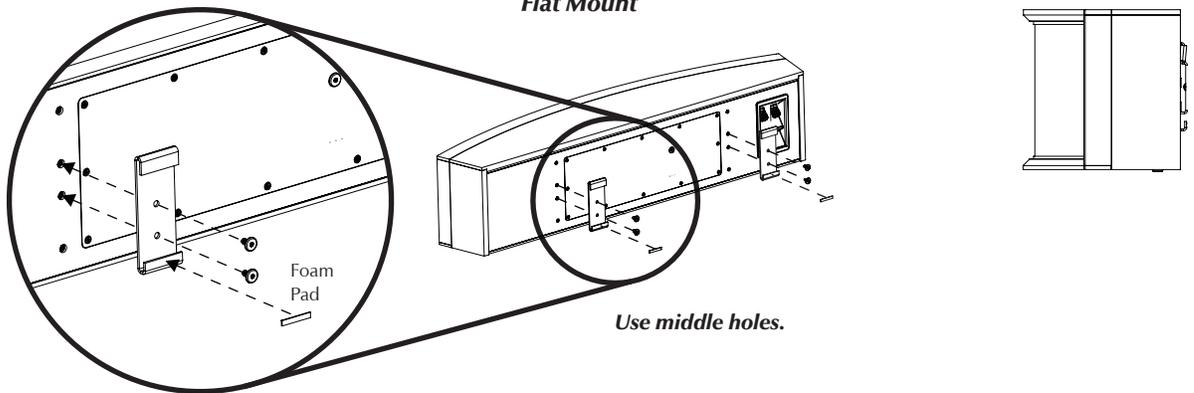

**Figure 2**
- 2 Please study figure 2 to determine where to install the bracket on your speaker. The flat bracket mounts to middle set of holes. Angle bracket (angle down) mounts to lower set of holes. Angle bracket (angle up) mounts to upper set of holes.
- 3 As shown in figure 2, use a 5mm Allen tool and install two 1/4-20 x 1/2" connector bolts (per bracket) to attach to the speaker.
- 4 As shown in figure 2, attach an adhesive foam pad to the bottom of each bracket (in the location where the bracket will contact the wall).